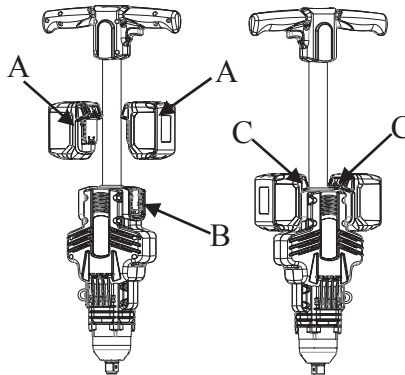

Fig.2
TO REMOVE BATTERY PACK: Depress the battery release button (C) and pull battery pack (A) out of tool (B). (see Fig. 2)
TO INSTALL BATTERY PACK: Push battery pack(A) onto tool until it locks in place. (see Fig. 2)